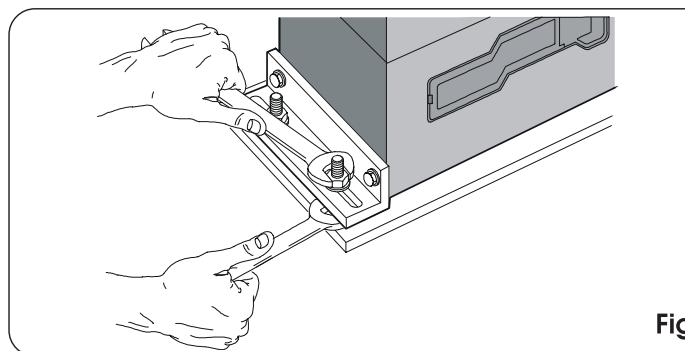

Fig. 12
- 5) Secure the gearmotor on the foundation plate, tightening the nuts as shown in Fig. 12.